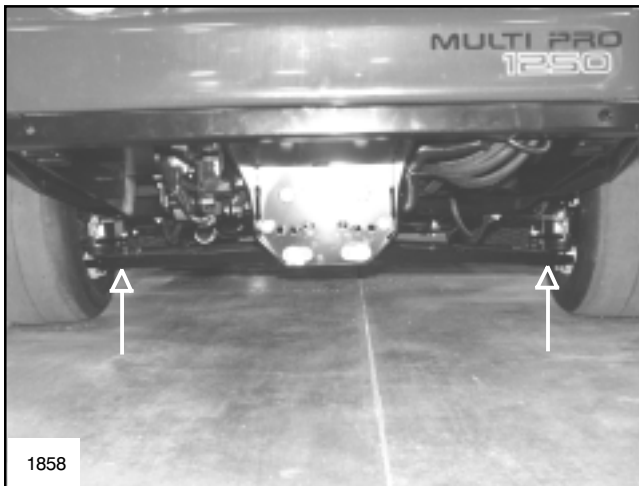

FIG. 1
3. The jacking points at the front of the vehicle are under the A-arms. (Fig. 1)